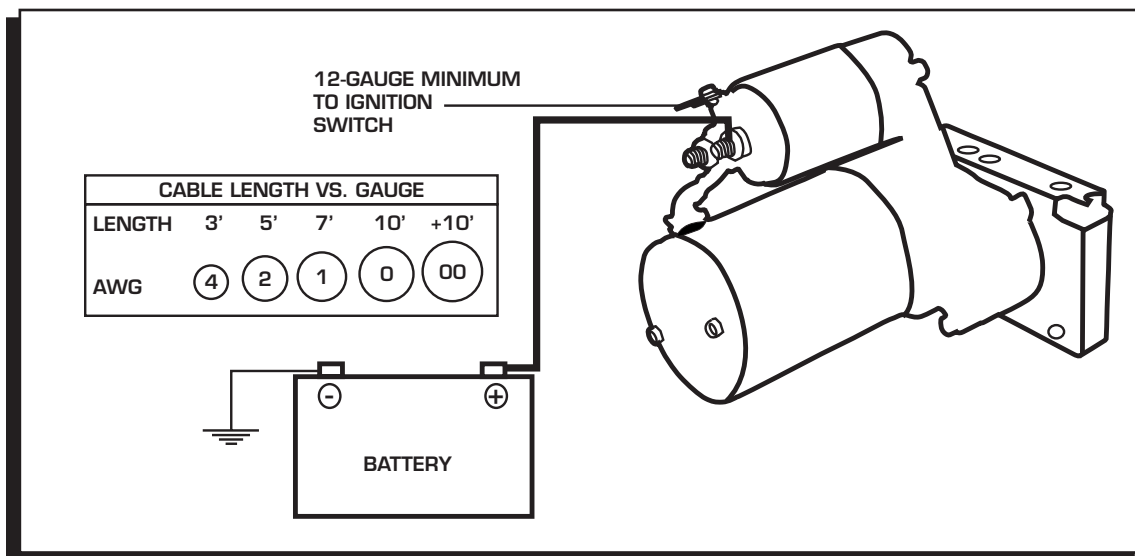

Figure 5 Wiring the Starter.
6. The switch wire that connects to the solenoid should be at least 12-gauge (Figure 5).
7. Attach the battery cable. The size of the battery cable depends on its length. Using the proper gauge wire is important to the operation of the starter. Both the positive and ground wires must be able to meet the demands of the starter. The chart in Figure 5 shows the recommended sizes. Be sure to route the wire away from the exhaust and moving parts of the engine.